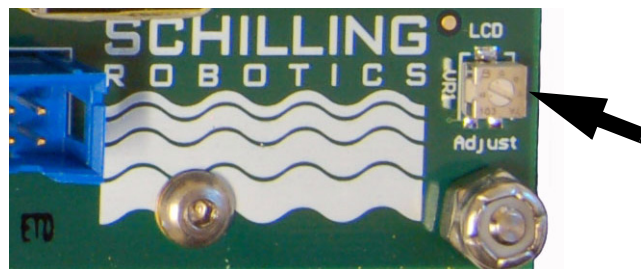

Figure 1 LCD Adjustment potentiometer
2. Identify the LCD adjustment potentiometer (labeled VR1 on the PC board), located at the bottom right of the board (Figure 1).